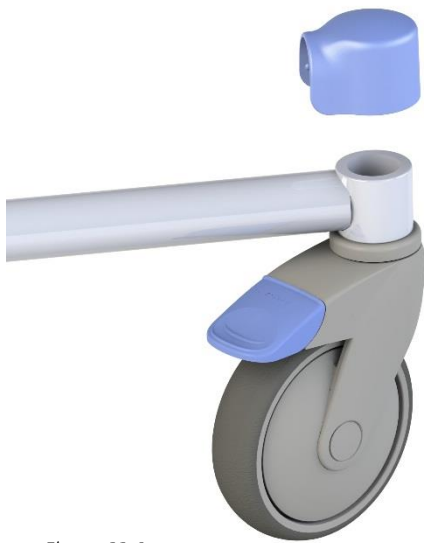

Figure 22 Cover
- Fastly secure screws. (See figure 22)